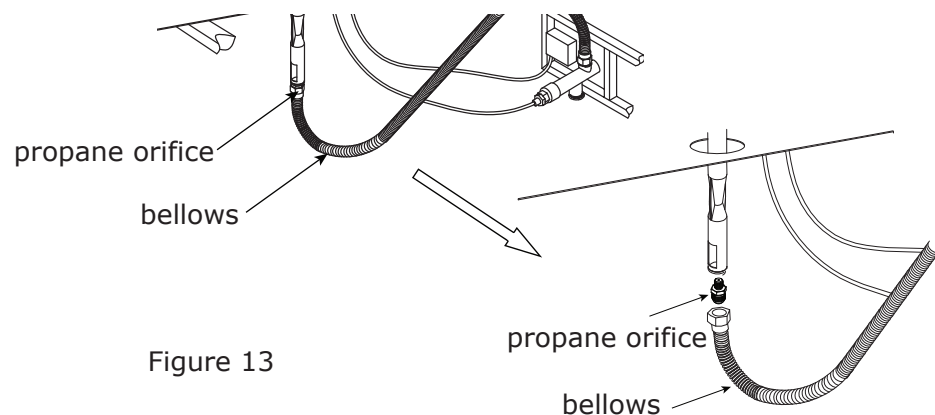

Figure 13
2. Unscrew and disconnect the propane orifice from the bellows (see Figure 13). Propane orifice (2.21 mm diameter size) is painted with red mark.